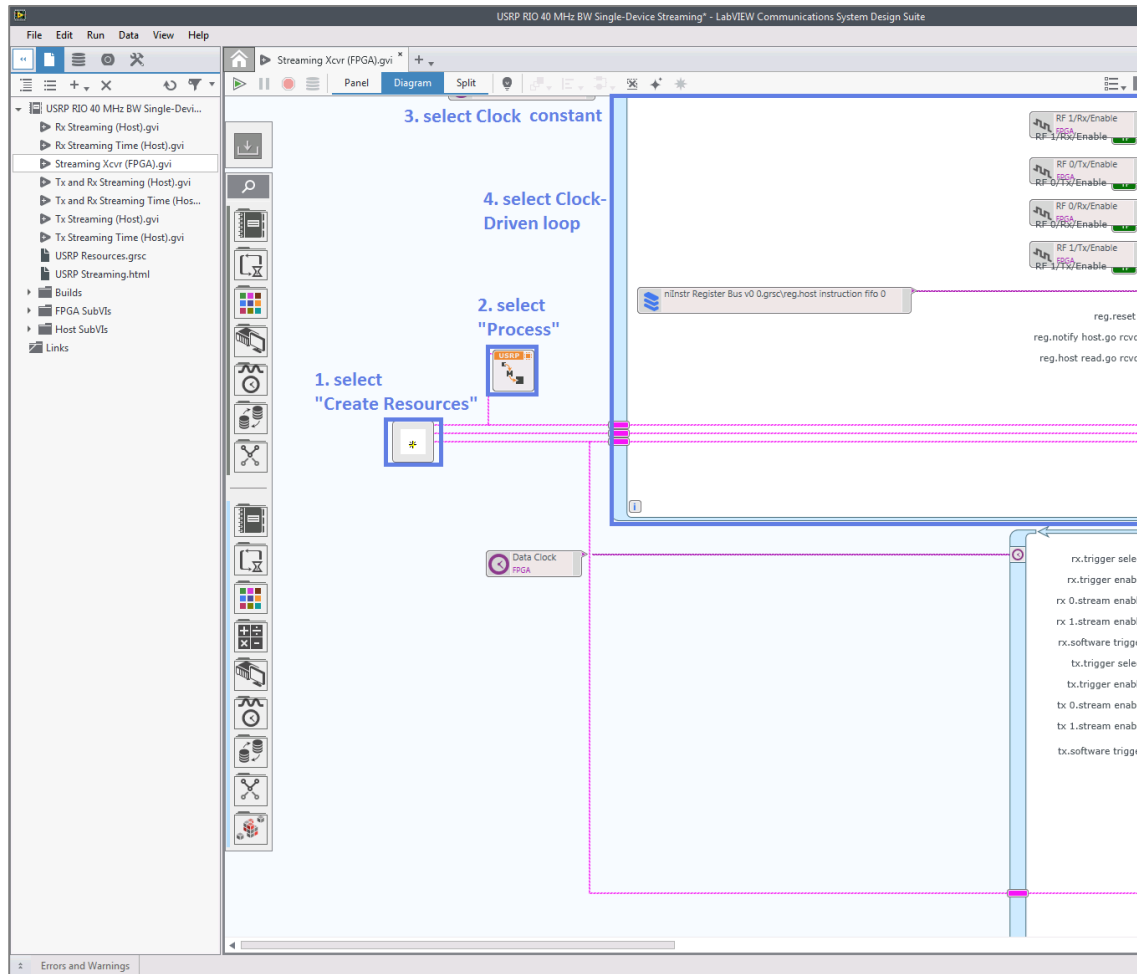

Figure 14 - USRP Interface Elements to be copied to the FPGA Top-Level
- a. As shown in Figure 14, select and copy the following from the Diagram: "Create Resources.gvi", "Process.gvi", the Clock Constant, and the Clock-Driven Loop.